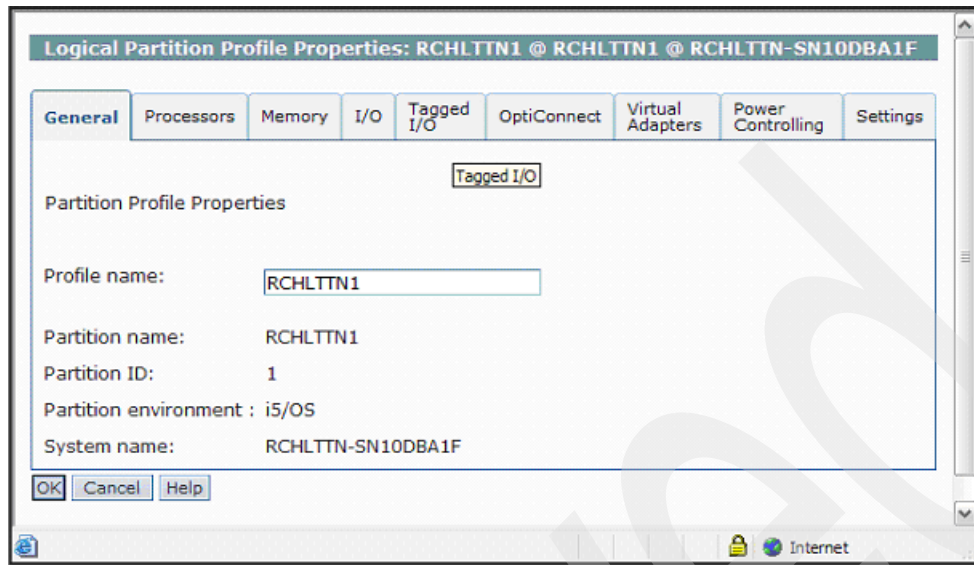

Figure 5-3 Logical Partition Profile Properties window
3. In the Logical Partition Profile Properties window (Figure 5-3), select the Tagged I/O tab.